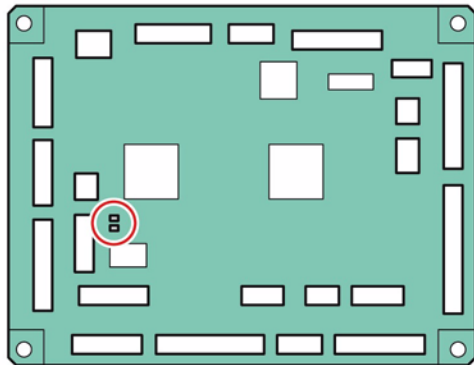

Figure 1 Test Print test pins on the MCU Board
- Refer to Figure 1 to locate and short the Test Print test pins on the MCU Board.
The overall image density is too light (Figure 1).